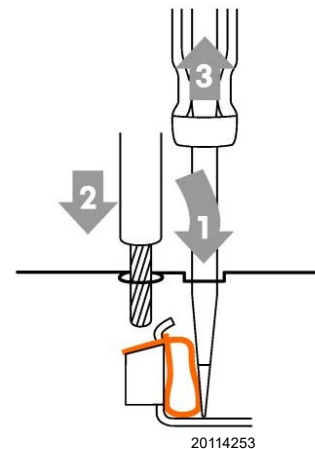

Fig. 28
- Insert the previously stripped cable and remove the screwdriver. Make sure the cable is securely fastened Fig. 28.